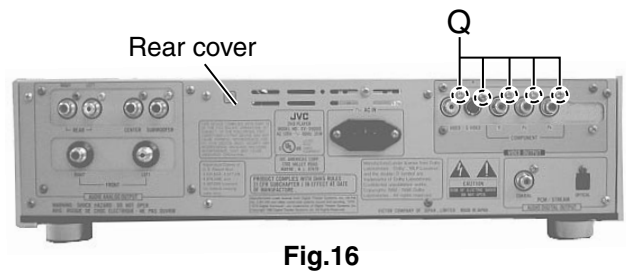

Fig.17 Power supply board cover
■ Removing the power supply board (See Fig.17,18)